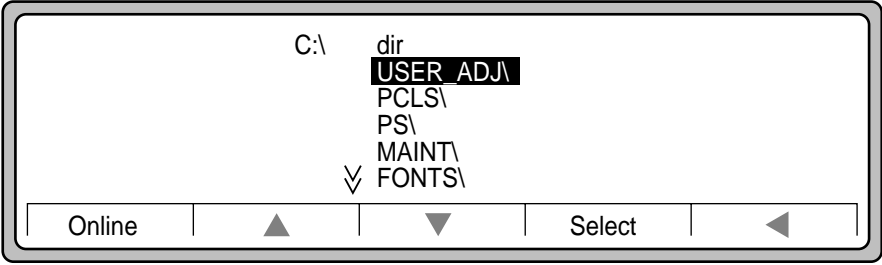

Figure 2-93 FilesC Submenu
4. From the **filesC** submenu shown in Figure 2-93, use the **down arrow** to highlight **USER_ADJ**, then press **Select**.